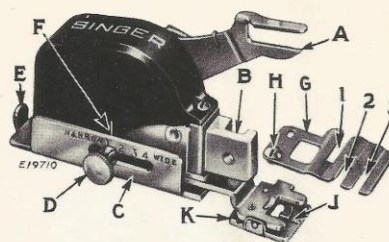

Fig. 2
(See Figs. 2 and 3)
The width of the zigzag stitch is controlled as follows: (1) Raise the presser foot to relieve strain on adjusting parts, (2) loosen thumb screw D, (3) grasp handle E, Fig. 2 and move regulator C forward or backward until the desired number on the regulator is opposite the line F on the cover, (4) tighten thumb screw D. No. 4 indicates the widest zigzag stitch and No. 1, the narrowest.
tightening the screw H. The slots serve as guides for the edges of any material to which the zigzag stitch is applied. See Fig. 2. The edge inserted in slot 1 will be stitched over the edge placed in slots 2 or 3. Either left-hand slot may be used, depending on how much overlap is desired.
When attaching lace, place the edge of the lace in slot 1 and the folded edge of the material in slot 2. See Fig. 2 at front of book. Amount of overlap of lace is adjustable by loosening edge guide screw H and moving the edge guide slightly to the right or left. For joining lace, always use a medium narrow width of stitch.